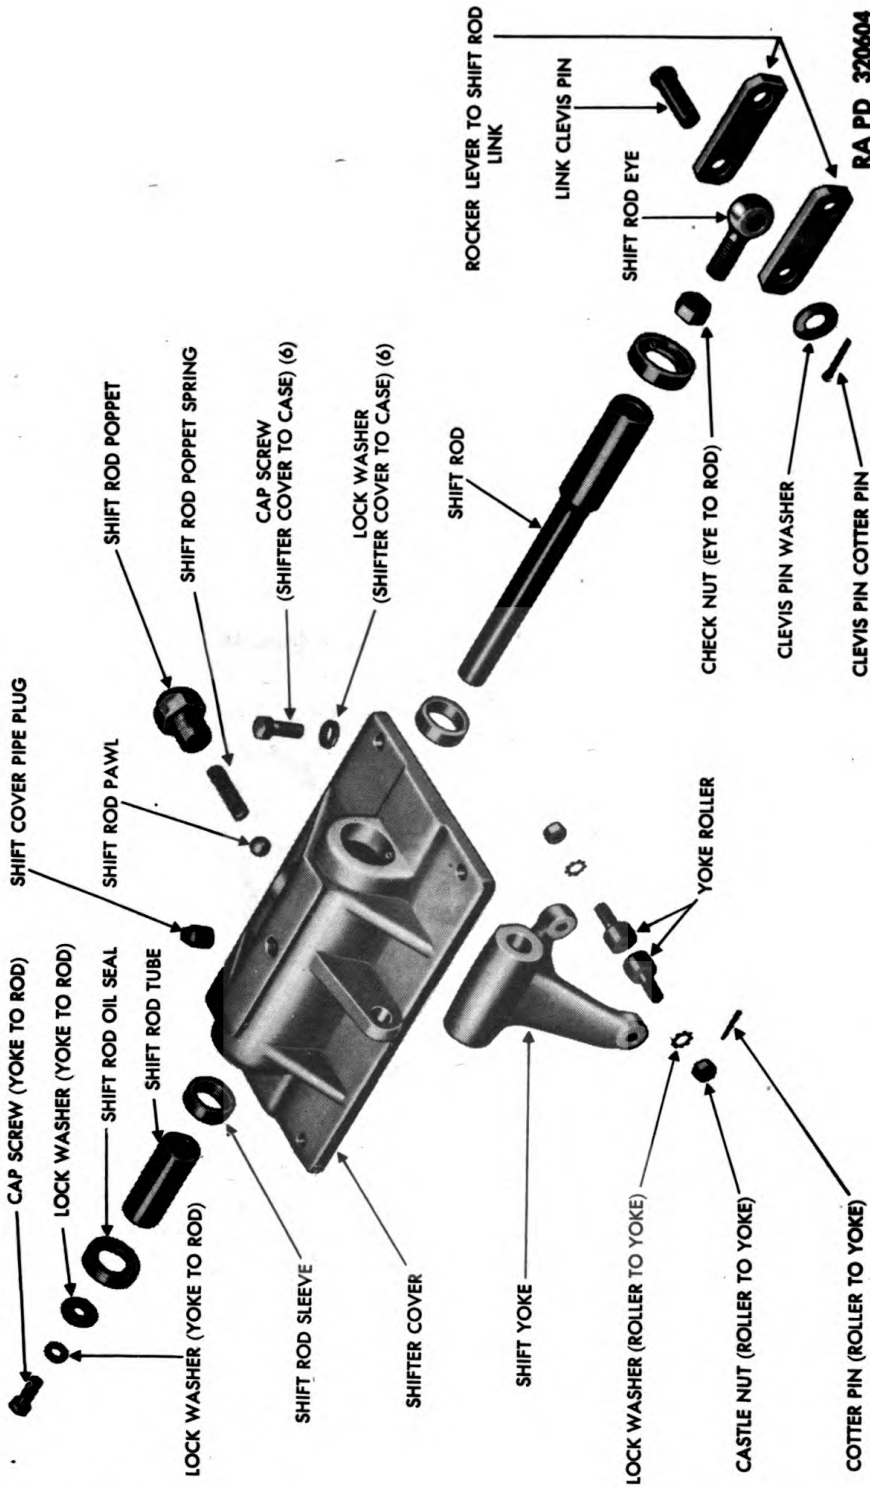
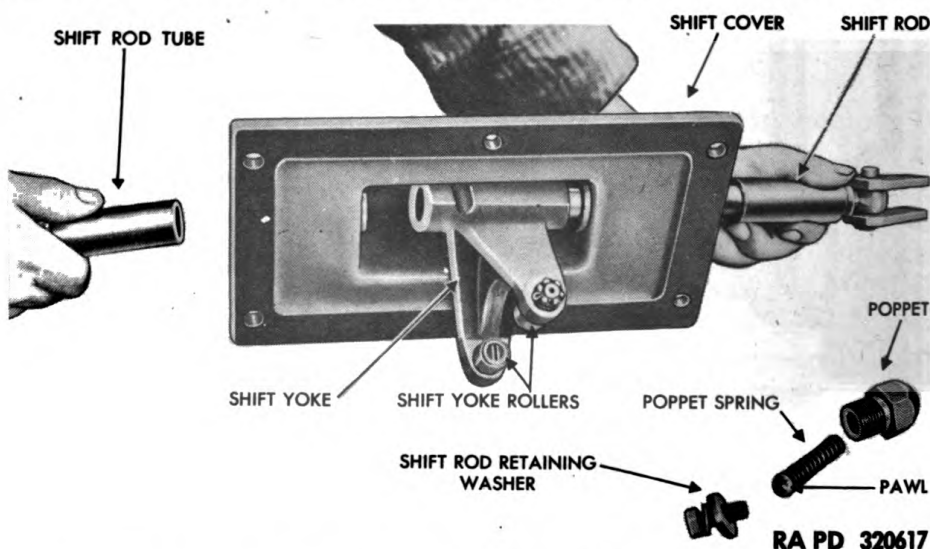

Figure 43 — Gear Case Shift Cover — Disassembled
Figure 56 — Installing Gear Case Shift Rod and Yoke
b. Remove Shift Cover. Remove six 7/16-inch cap screws and lock washers attaching shift cover to swinger gear case, and lift off cover (fig. 43).
c. Disassemble Shift Cover. Remove the shift rod poppet spring and pawl. Remove the 3/8-inch cap screw from the end of the shift rod, lift off the lock washers, pull out the shift rod tube, and slide the shift rod out of the shift yoke. Remove cotter pins from shift yoke rollers, and remove castellated nuts. Lift off lock washers. Using a soft hammer drive the rollers out of shift yoke, taking care not to lose needle bearings out of roller (fig. 43). These rollers should not be removed unless the rollers or the yoke are to be replaced. A screwdriver slot is provided in the end of the bearing assembly to hold the bearing against rotation while removing the castellated nut. Loosen the lock nut on the shift rod eye and turn eye and links out of shift rod. Remove cotter and clevis pins securing links to shift rod eye.
f. Assemble and Install Cover. Enter shift rod through opening in cover, being careful not to damage the oil seals. Set the shift yoke in position, and continue sliding the rail through the cover. Install the shift rod tube, and install the retaining lock washers and cap screw (fig. 56). Drop the pawl through the poppet opening, and install the spring and poppet. Install the lock nut on the shift rod eye, and install the eye. Install the shift rod rocker links, clevis, and cotter pins (figs. 43 and 56). Use a new gasket and set the shift cover in position on the gear case, making certain that the sliding clutch is centered; enter the shift yoke into the groove on the sliding clutch. (The rocker links point away from the sprocket end of the gear case.) Install the six cap screws and lock washers securing the shift cover to the gear case.
c. **Disassemble Shift Cover.** Remove the shift cover poppet spring and pawl. Remove the $\frac{3}{8}$ -inch cap screw from the end of the shift rod and lift off lock washer. Pull out shift rod tube, and slide the shift rod out of the shift yoke (fig. 56). Remove cotter pins